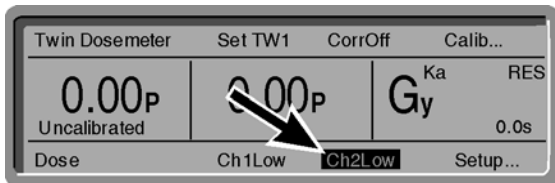

Figure 6-9: Chosen range of channel 2
For both channels you can choose between the two measuring ranges "Low" and "High". The chosen range is displayed separately for the channels (Figure 6-9, arrow shows: channel 2 range Low).
- To change the measuring range, position the cursor on the channel (example "Ch2Low", Figure 6-9) and press ENT.